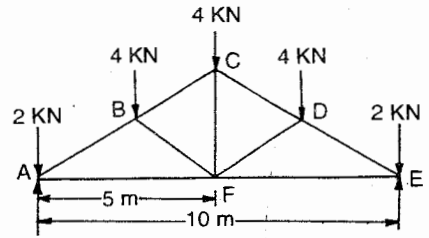

Fig. 14.31
12. Determine the forces AB , BF and AF members of the truss shown in figure 14.31
15. A frame as shown in figure 14.31 carries a vertical load of 9 kN at point A and equivalent horizontal thrust due to wind of 4.5 kN at B. Determine stresses in the inclined members of the truss.